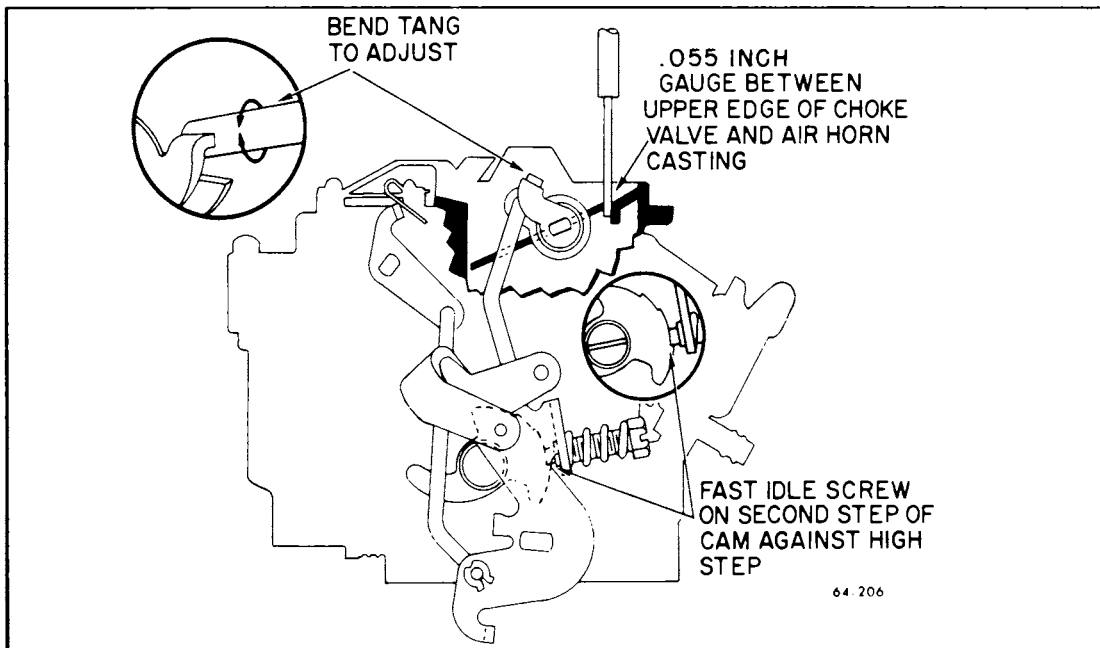

Figure 64-18—Choke Rod Adjustment
14. Install choke rod into choke lever and fast idle cam. Install fast idle cam screw and tighten securely. See Figure 64-18 for proper installation.
With idle stop screw in normal idle position, place idle stop screw on the second step of the fast idle cam against shoulder of the high step. Wire gage should just go between upper edge of choke valve and wall of air horn. Bend tang on choke lever to obtain a .055 inch measurement. See Figure 64-18.